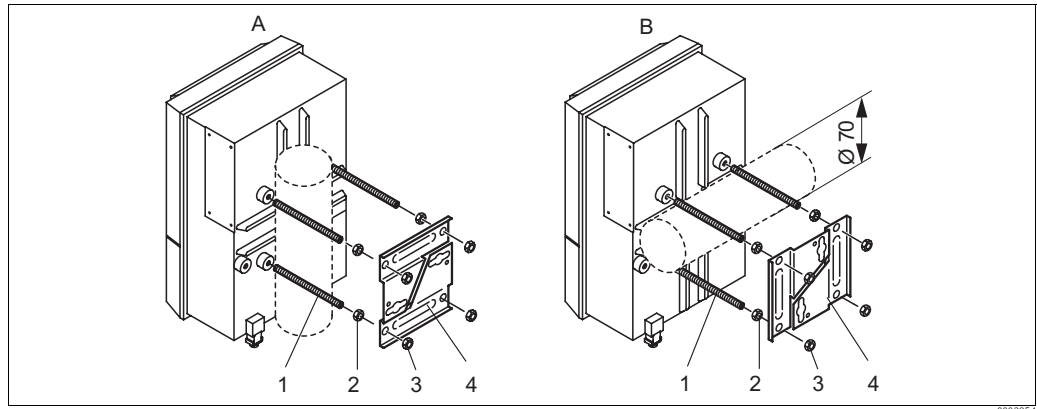

Fig. 12: Post mounting
1. Screw the four securing screws (item 1) into the threaded openings on the transmitter.
2. Counter every securing screw with a nut (item 2).
4. Push the securing plates (item 4) onto the securing screws in accordance with Fig. 12.
5. Screw a nut (item 3) onto each securing screw and tighten it so that the transmitter is securely fastened to the post or pipe.